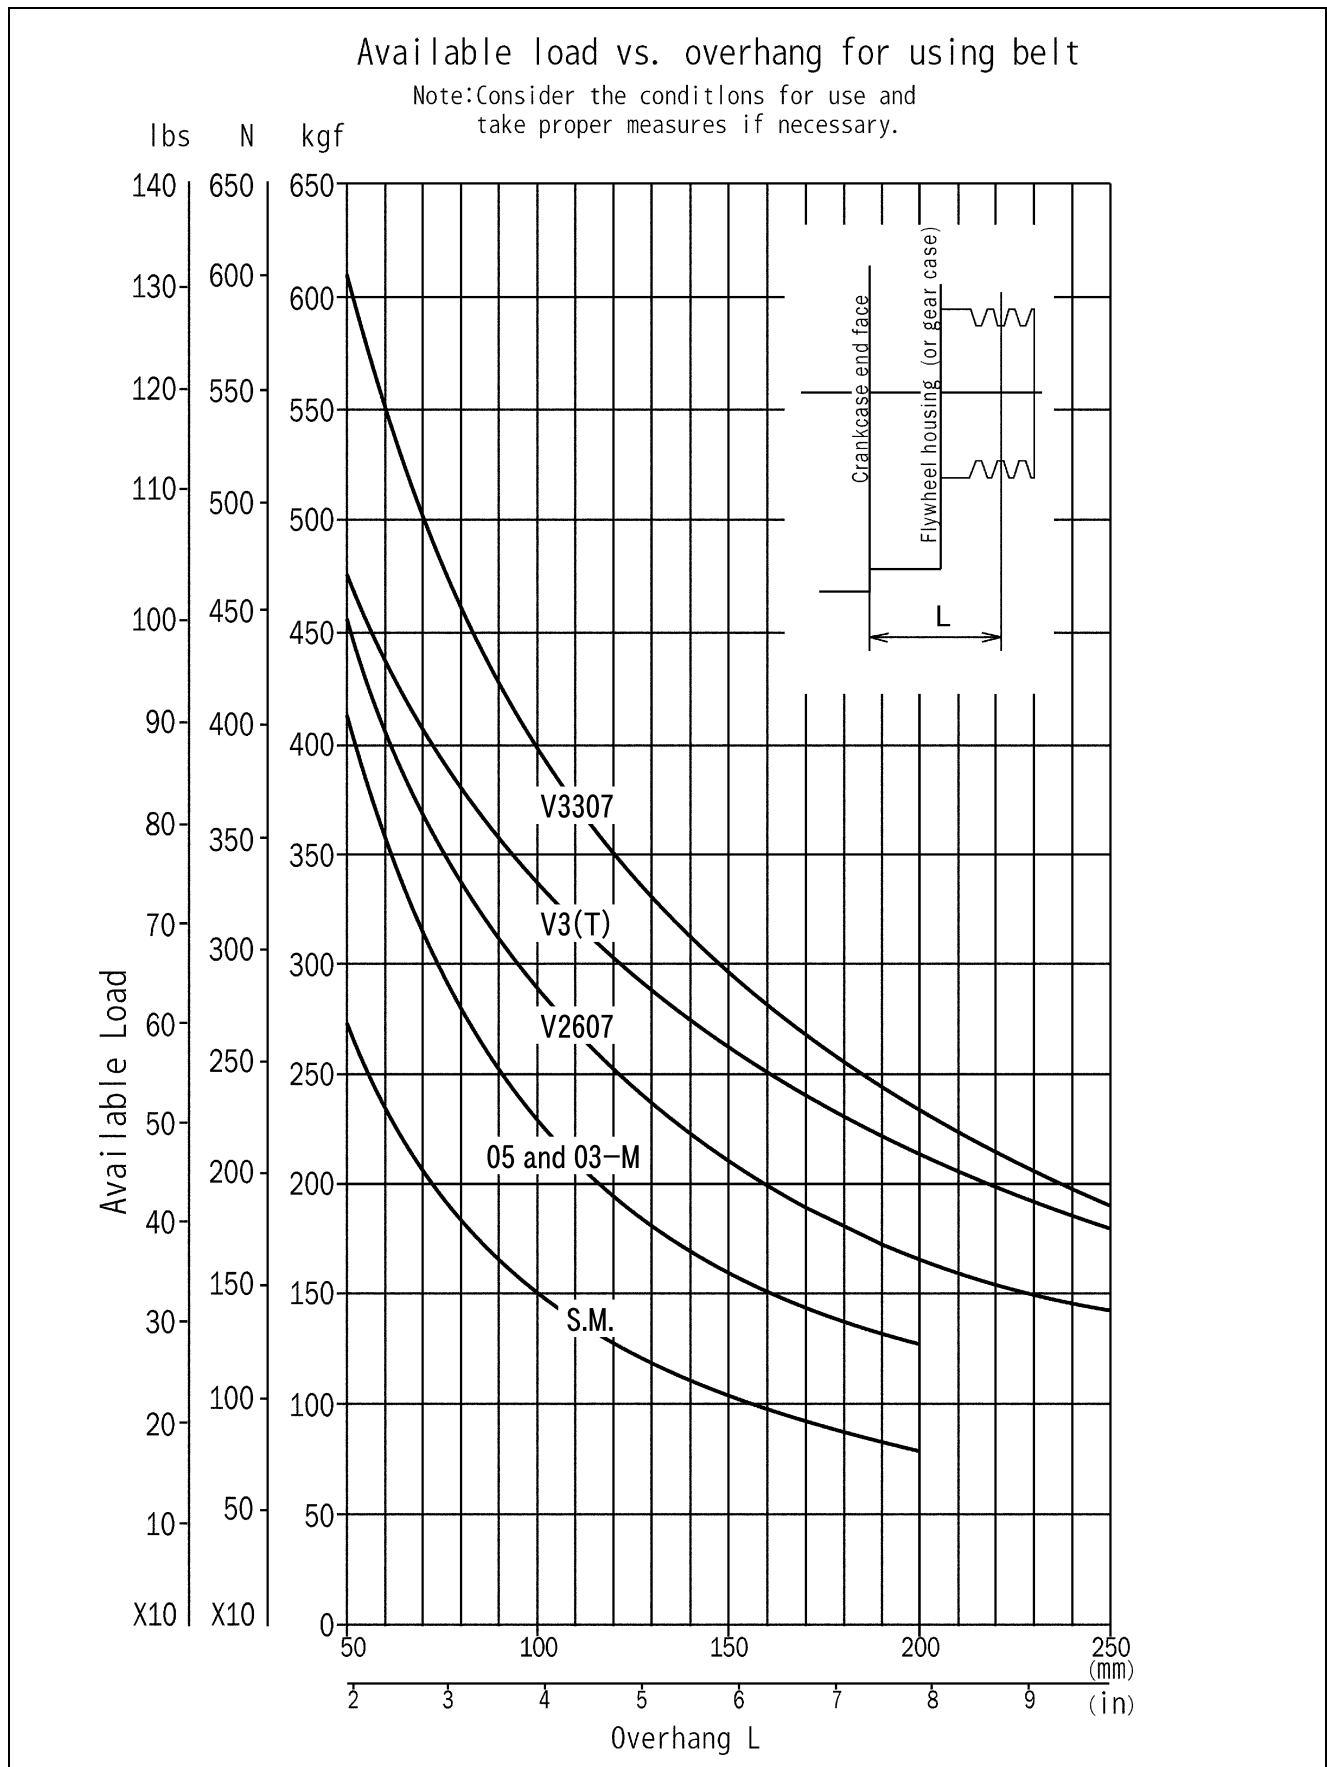

Fig. 10-10
(3) Find the allowable overhang from the engine according to Fig. 10-10 and design the position within the allowable limit.